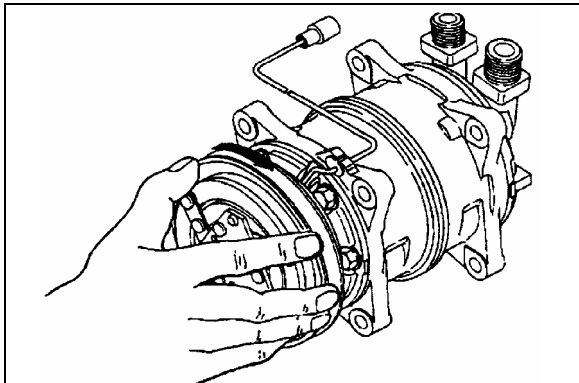

FIGURE 41: ROTATING MAGNETIC CLUTCH
- Slowly rotate the compressor's magnetic clutch several times by hand to distribute the oil which has settled in the cylinders (Figure 41).